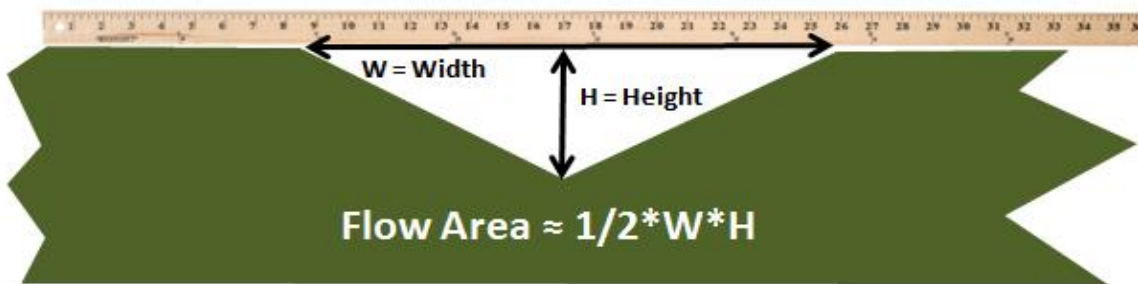

Figure 1 Simple Method - Flow Area Calculation
**Step 2:** Where flow exits the site, determine existing flow area of the exiting drainage channels on your site using the schematic and equation below in Figure 1. Mark on the plans where flow area was determined.
**Step 3:** Once flow area has been calculated, determine the impervious area (IA) of the project and the nearest lot area to determine the required flow area for your site.